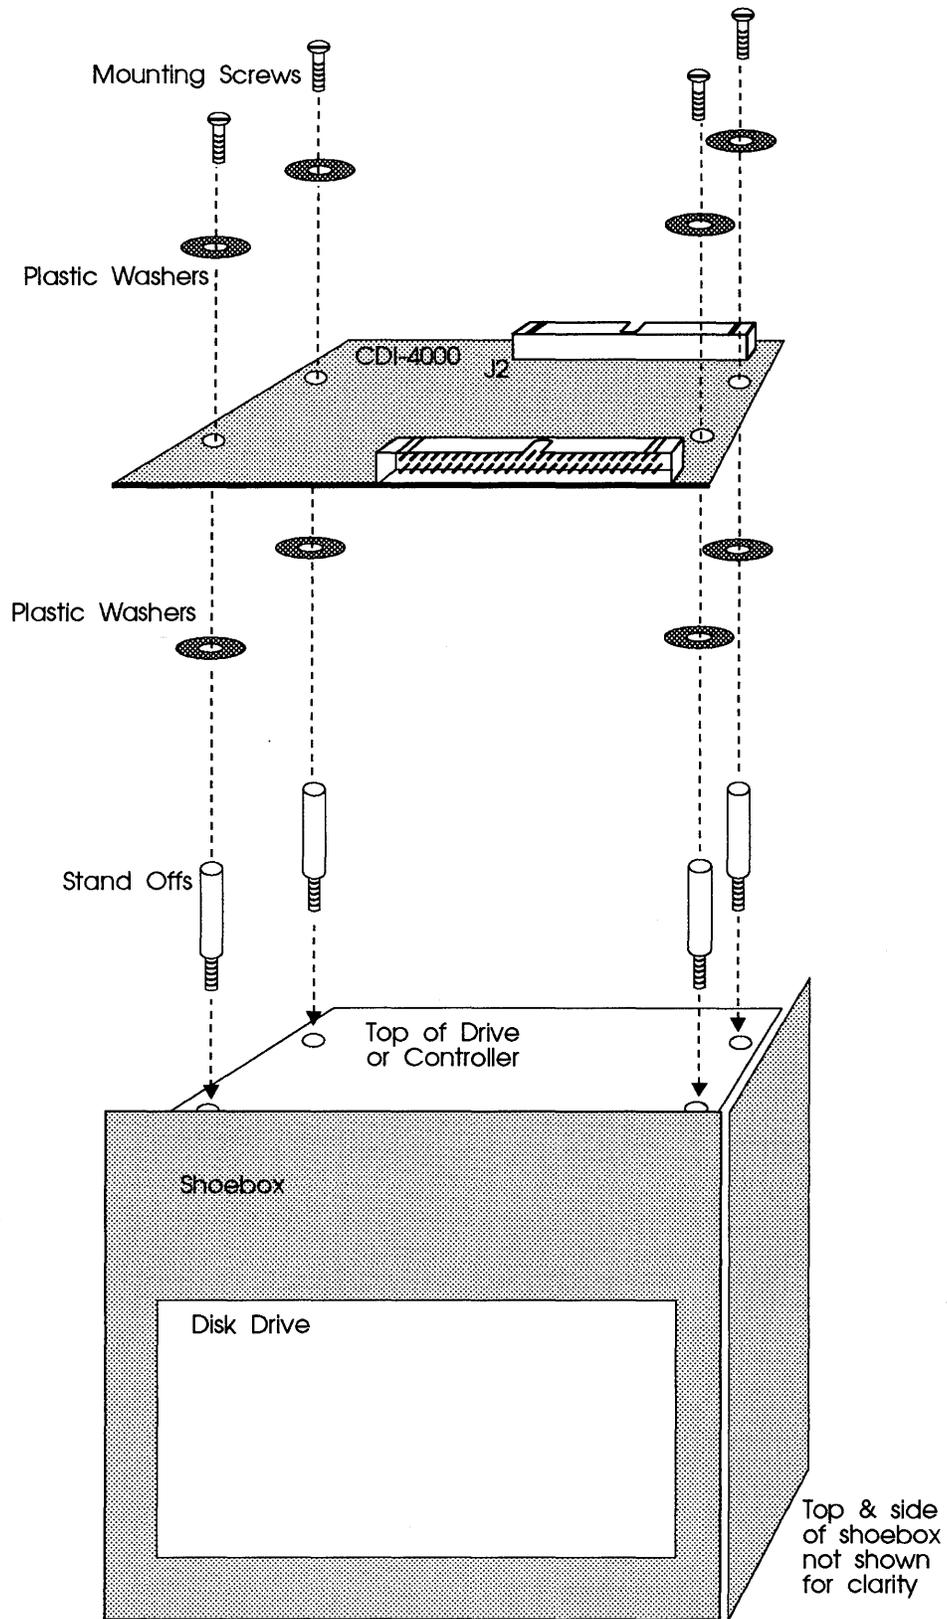

Figure 3-6: Shoebox installation example
- Carefully install the CDI-4000 into an assigned slot inside a storage box, shoebox, or system, see Figure 3-6 as an example.
- ❶ **Make sure the CDI-4000 or any of its components are NOT directly touching metal surfaces. Attach plastic washers as specified in the drawing.**
- ❷ **Make sure there is proper ventilation in the storage unit.**